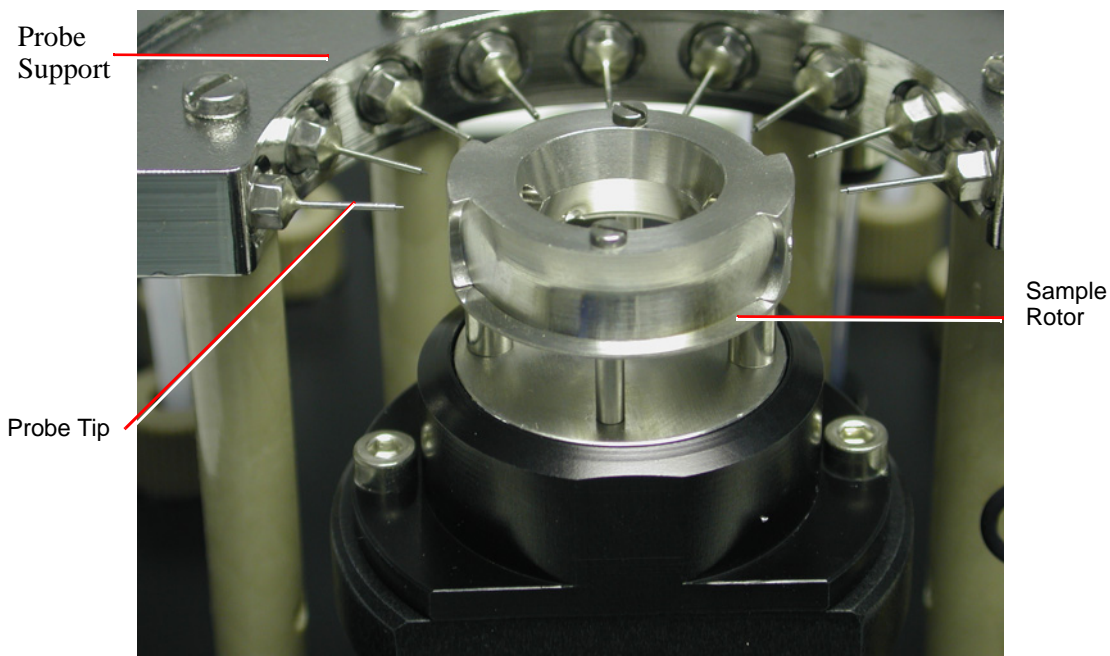

Figure 8-22 Sample Rotor and Probe Tips on MUX Flange
2. Remove the sampling rotor (Figure 8-22) from the MUX flange (see Section 8.15.1.2).
3. Using the wrench provided, unscrew and carefully remove the electrospray probe tip from the probe support segment (Figure 8-22).